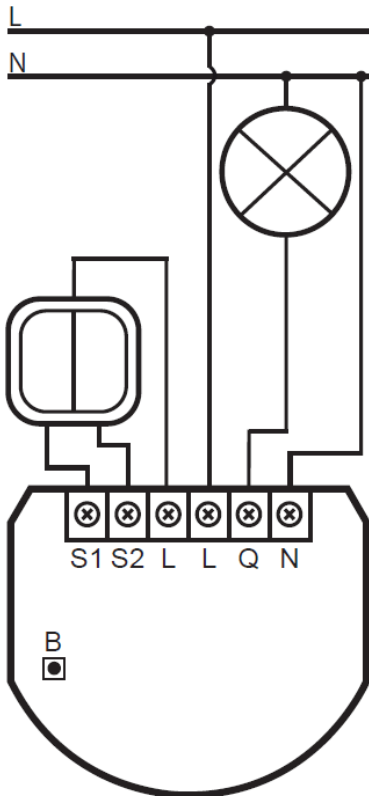

Figure 1: Example connection of SingleSwitch-Control
- Connect only as shown in Figure 1 below.
3. Connect as shown in Figure 1 below.